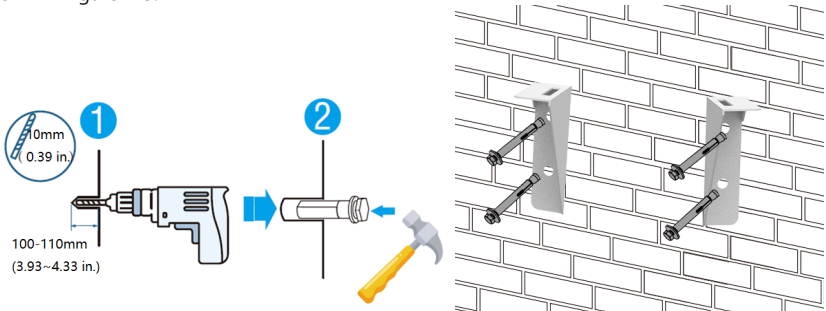

Figure 4-3
- g) Choose the recommend drill head (as shown in Figure 4-3) to drill 4 holes on the wall,100mm-110mm deep.
- h) Use a hammer to secure the support to the wall, and install the expansion bolt in the hole, as shown in Figure 4-3.